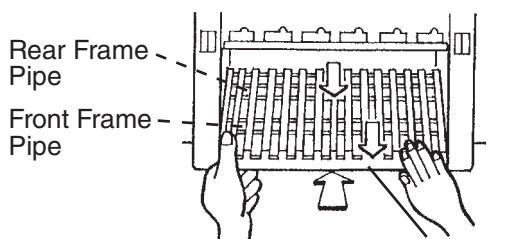

Fig. 44
13. Position and lock the ice chute onto the front and rear frame pipes by pushing the ice chute down until it clicks onto both frame pipes. See Fig. 44.